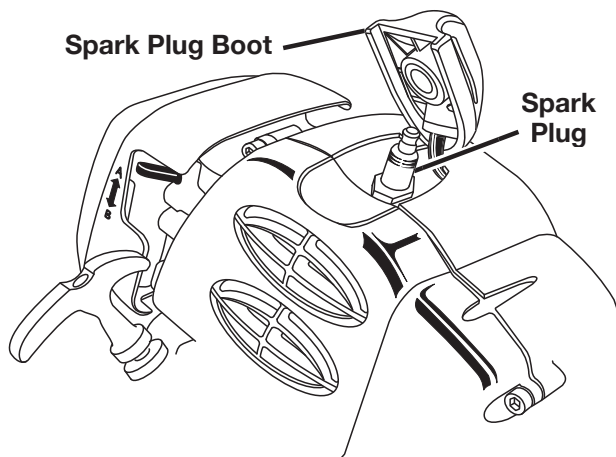

Figure 24
2. Remove the spark plug boot. See Figure 24.
18. Replace the spark plug boot. *See Figure 24.*
2. Remove the spark plug boot. *See Figure 24.*
14. Replace the spark plug boot. *See Figure 24.*
See Figure 24.